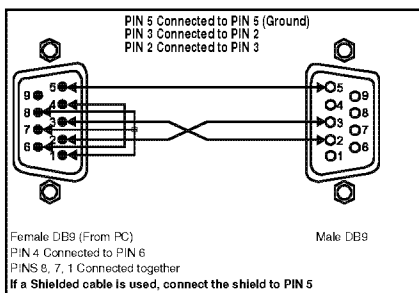

Figure 3: Connecting a PC without using a Null-modem Adapter
- Connect the RS-232 DB9 port on your PC to the RS-232 DB9 rear panel port on the Master **VS-81HDMI** unit, as Figure 3 illustrates